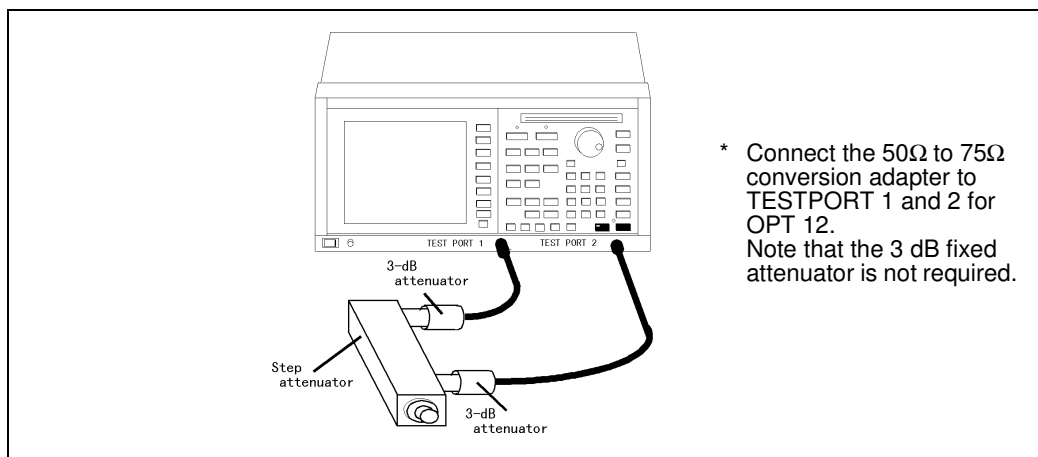

Figure 10-32 Connections for TEST PORT 2 Measurement for Dynamic Level Accuracy
- (1) Connect two 3-dB attenuators and step attenuator using the RF cables between TEST PORT 1 and TEST PORT 2 shown in Figure 10-32.